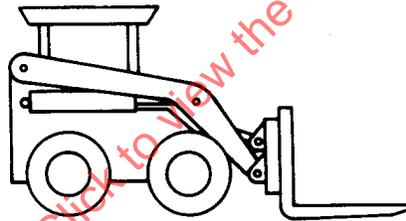

FIGURE 4—
- 4.1.4 Skid Steer Loader with Fork Attachment (see Figure 4)